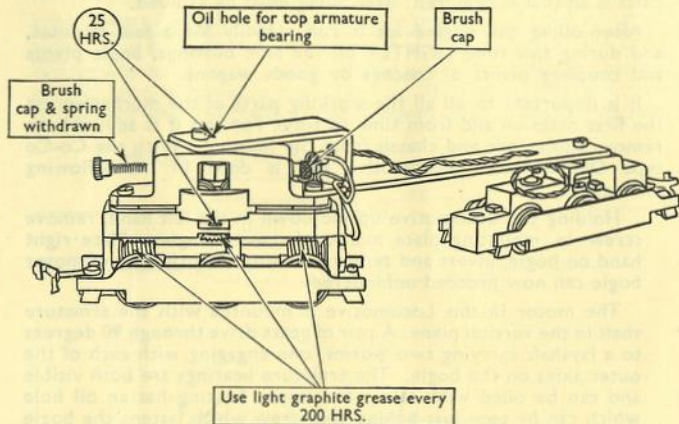

FIG. 8
- (c) As shown in Fig. 8 withdraw end cap and brush spring, worn brush should now drop out. The brush holder may now be cleaned out with a pipe cleaner, and brush dust blown from commutator housing as shown in Fig. 9. New brushes may be fitted and brush caps and springs replaced.